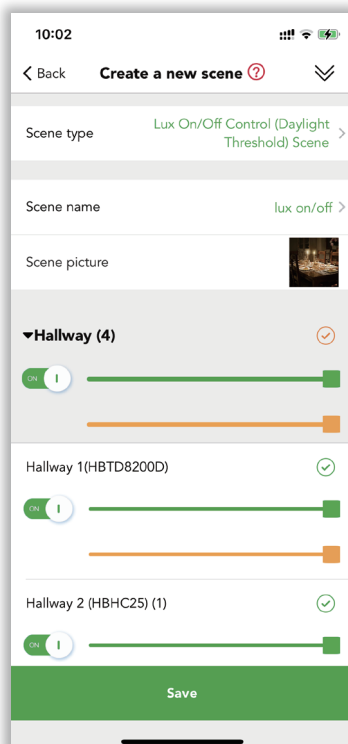

Figure 6.5 Create lux on/off scene
1. Create a Lux On/Off Control (Daylight Threshold) Scene (see figure 6.5).